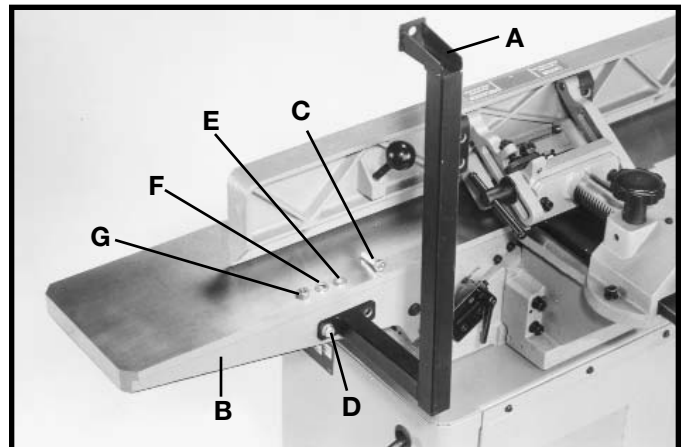

Fig. 22
1. Align the two holes in the switch mounting bracket (A) Fig. 22, with the two holes (D) in the back of the infeed table (B). Place an M8 flat washer (E) Fig. 22, on an M8x1.25x30mm hex socket head screw (C). Insert the screw through the hole (D) Fig. 22, in the switch mounting bracket (A) and the hole in the back of the infeed table (B). Place a M8.1 lockwasher (F) Fig. 22, onto the screw (C). Thread a M8x1.25 hex nut (G) Fig. 22, onto the screw (C) and tighten securely. Repeat this process for the remaining hole in the switch mounting bracket and the infeed table.